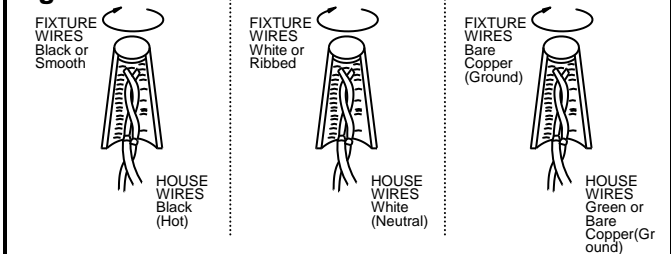

Fig. 3
6. Separate the cage (H) by loosening two screws (G). Install (2) two candelabra base bulbs (E) for 72782-66G or (4) four candelabra base bulbs for 72783-66G up to 60 watts or CFL or LED equivalent (not included) in accordance with the fixture specification. **(DO NOT EXCEED THE SPECIFIED WATTAGE!) (NE PAS DEPASSER LA PUISSANCE NOMINALE MAXIMALE!).**
7. Secure the cage (H) back to the fixture with screws (G). Align the fixture back plate to mounting plate (C) and secure with cap nuts (F).
8. To prevent moisture from entering the outlet box (A) and causing a short, use clear caulking (i.e. Indoor/Outdoor Silicone Sealant) to outline the outside of fixture back plate where it meets the wall leaving a space at bottom to allow moisture a means to escape. (Fig. 3)